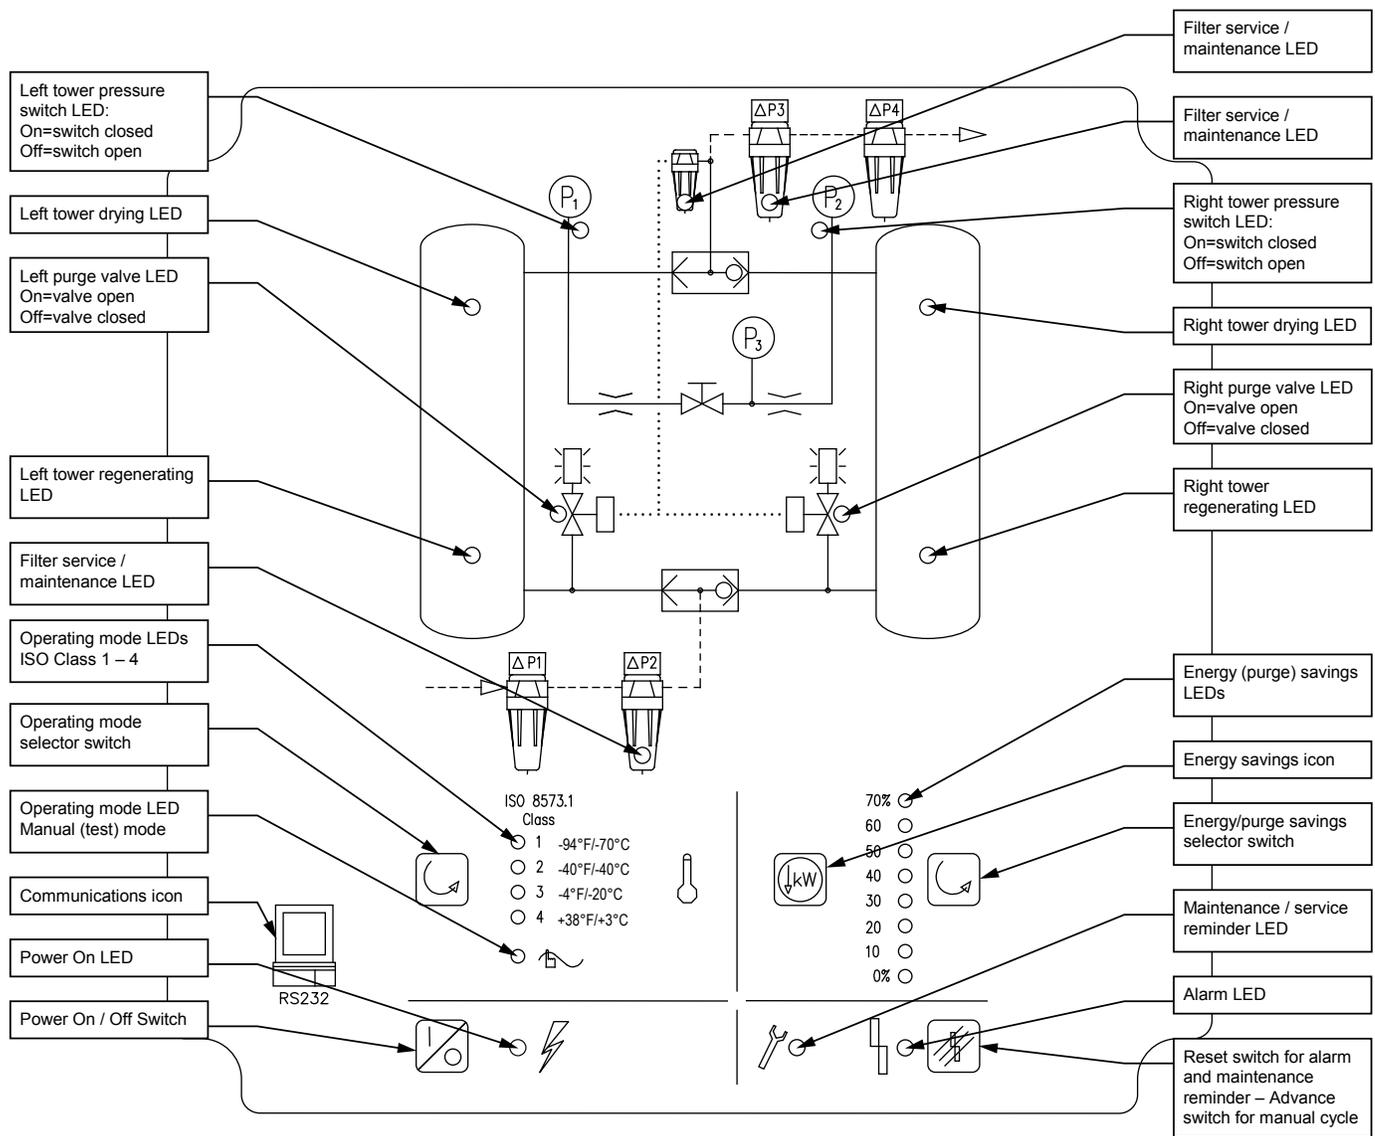

Figure 7-1
- Figure 7-1, Front Panel Overlay – HCL Series Controller
The front panel contains four momentary-contact push button switches. Refer to Figure 7-1, Front panel Overlay – HCL Series Controller for the appropriate icon associated with each switch. Pushing on the overlay icon actuates the switch. Switching can be affected remotely by wiring external push-buttons to the J2 terminals located on the rear of the display board. Refer to Section 7.2.4.